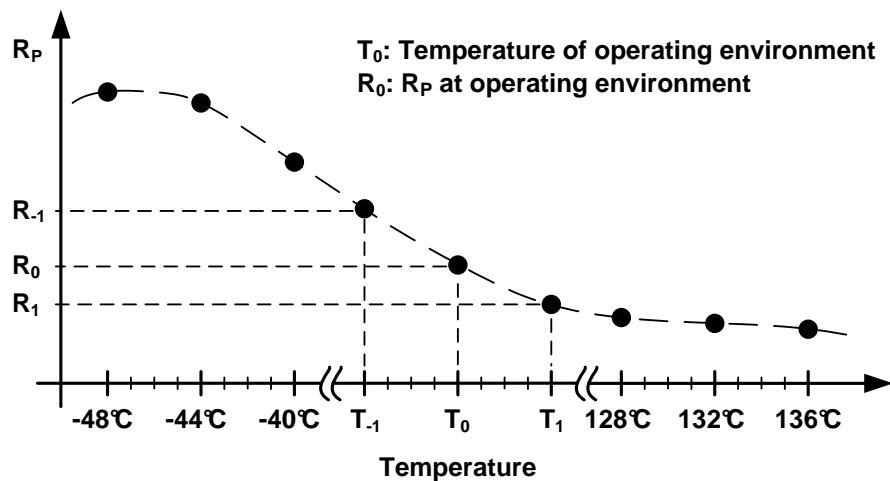
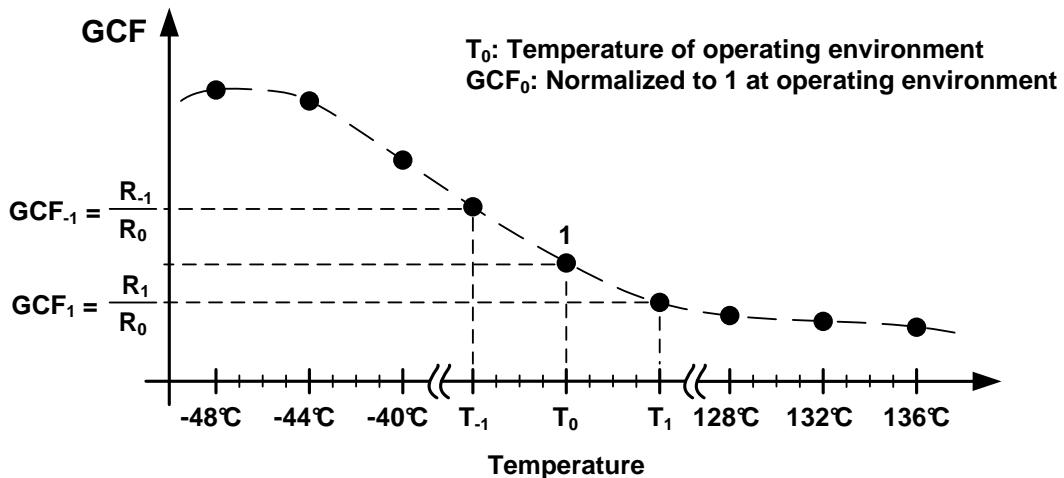

Figure 25. R_P Measurement Example
Figure 26. GCF Normalized Example
- Normalizing R_P :** Once all R_P values have been read and logged for the whole LUT temperature range as illustrated in Figure 25 the data must be normalized to the intended ambient operating temperature T_0 . This is done by dividing each R_P data point by R_0 , the measured R_P at the ambient operating temperature for each temperature of the LUT register. This ratio provides the gain correction factor coefficients (GCF) as shown in Figure 26. If the ambient operating temperature T_0 does not fall on one of the 4°C incremental points of the LUT then R_0 will need to be interpolated.